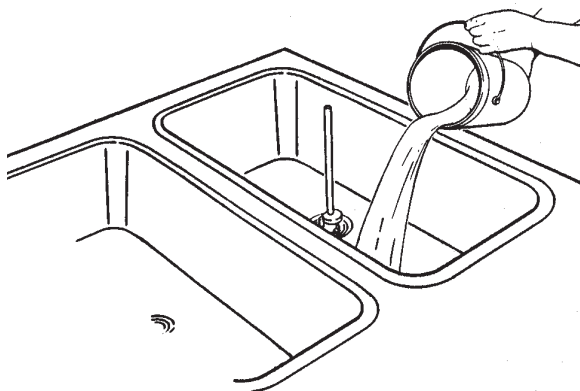

Figure 15. Pouring the Mix
- C. With spigots open, pour approximately 1 gallon (3.8 liters) of mix into the hopper. Allow the mix to flush out about 8 ounces (0.23 liters) of sanitizing solution and liquid mix. Close the spigot. (Fig. 15)